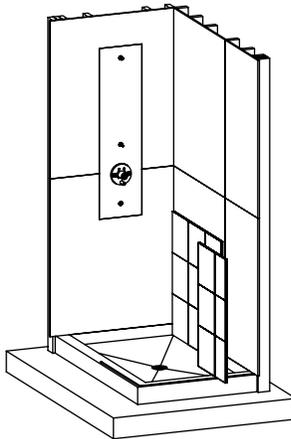

figure 20
2. Carefully place wall panel 2B into place, making sure the grout lines are aligned. Use a 1/8" spacer between the shower pan and the bottom of the panel. Match the space between the panels with the rest of the grout lines on the panel. Use spacers if necessary. (*fig. 20*).